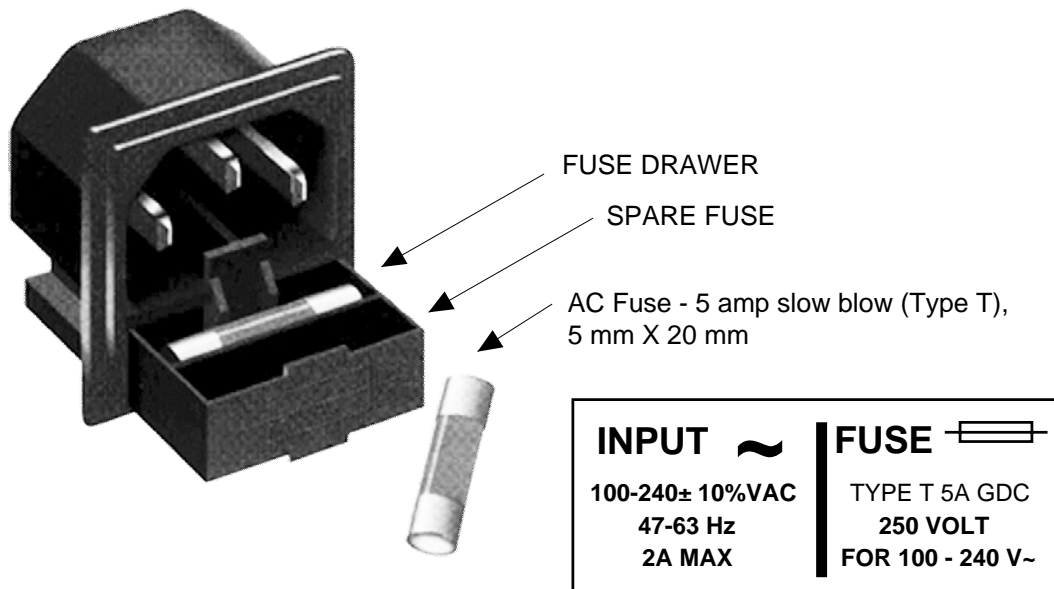

Figure 2.3 Fuse Location and Spare Fuse
- 7.) **AC Fuse** - The fuse is a 5 mm X 20 mm, 2 amp slow blow (Type T) and is inserted in the far slot in the drawer below the AC input as shown in Figure 2.3. There is a spare fuse in the near slot. If a fuse continues to open, the power supply is most likely defective.